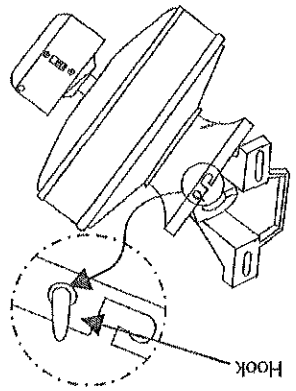

Figure 10
9. Hang the fan on the hook of the hanger bracket. Be certain that the canopy is fully locked into hook as shown in Fig. 10. This will allow you to make the electrical connections.